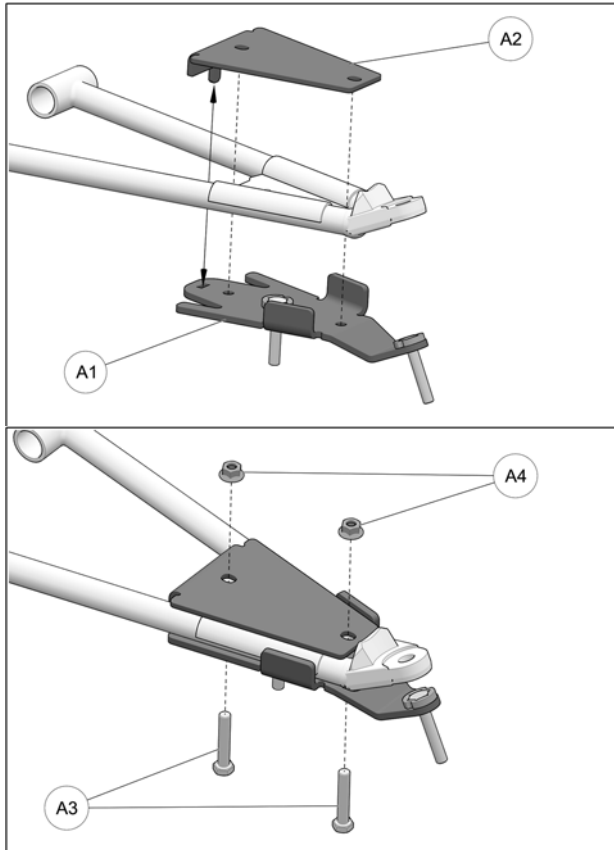

Fig. 16
- Position bottom part of anchor bracket (A1) assembly under front lower suspension arm, as shown in the figure below. Position bracket cover (A2) over suspension arm and align holes in cover and bottom part. Insert the M10x55mm bolts (A3) from the bottom and secure the two parts together with the nuts (A4) provided. Tighten assembly to 50 N•m [37 lb•ft] of torque. Refer to Fig. 16